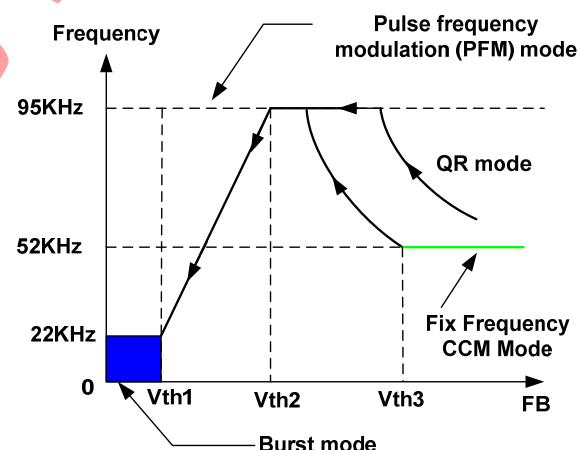

Figure 1
- At full load conditions ($\text{FB} > \text{Vth3}$, Figure 1), there are two situations: firstly, if the system input is in low line input range, the IC operates in fixed frequency CCM mode. Thus, small size transformer can be used with high power conversion efficiency. Secondly, if the system input is in high line input range, the IC operates in QR mode. In this way, high power conversion efficiency can be achieved in the universal input range when system is at full loading conditions.
- At normal operating conditions ($\text{Vth2} < \text{VFB} < \text{Vth3}$, Figure 1), the system operates in QR mode. The frequency varies depending on the line voltage and the load conditions. Therefore, the system may actually work in DCM when 95KHz frequency clamping is reached.
- At light load conditions ($\text{Vth1} < \text{VFB} < \text{Vth2}$, Figure 1), the system operates in PFM (pulse frequency modulation) mode for high power conversion